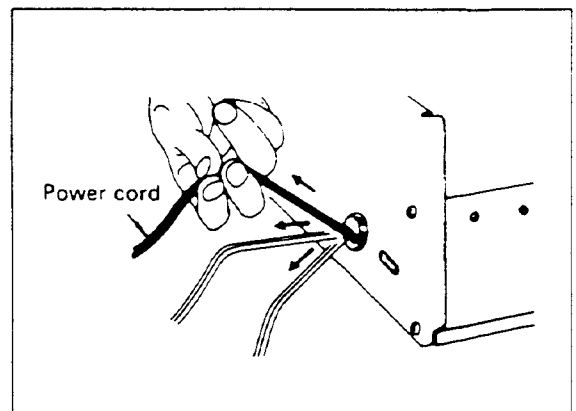

Fig. 2
8. When a power cord has been replaced, check that 10–15 kg of force in any direction will not loosen it. (Fig.2)